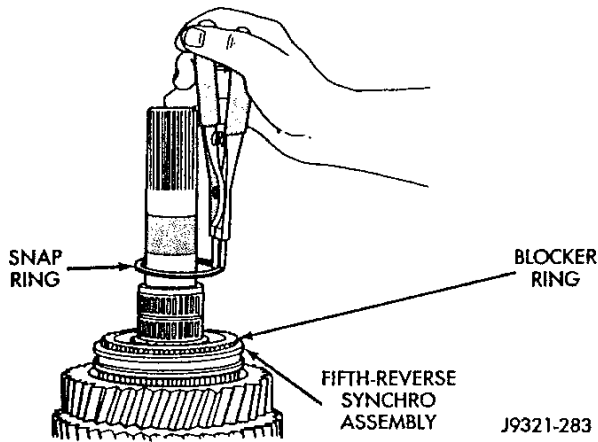

Fig. 19 Removing Fifth-Reverse Snap Ring And Blocker Ring
- (2) Remove fifth-reverse snap ring and blocker ring (Fig. 19).